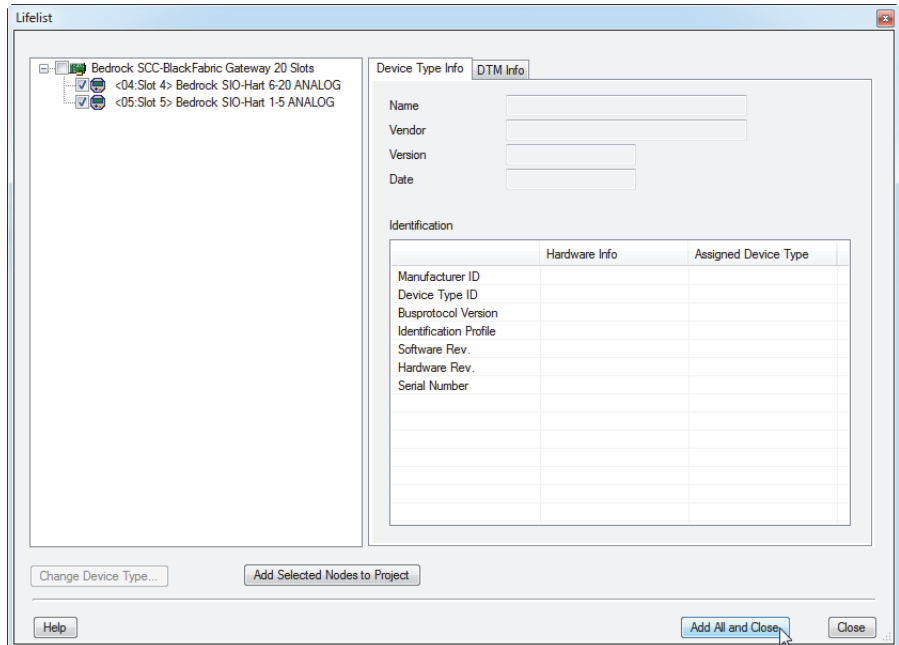

Figure 11-10 Adding DTMs After Scan
- A list of the DTMs that were found will be displayed as shown in Figure 11-10. The DTMs in the list correspond to HART-enabled SIO modules. Use the checkboxes to select the DTM(s) you would like to add to your project and then do one of the following: